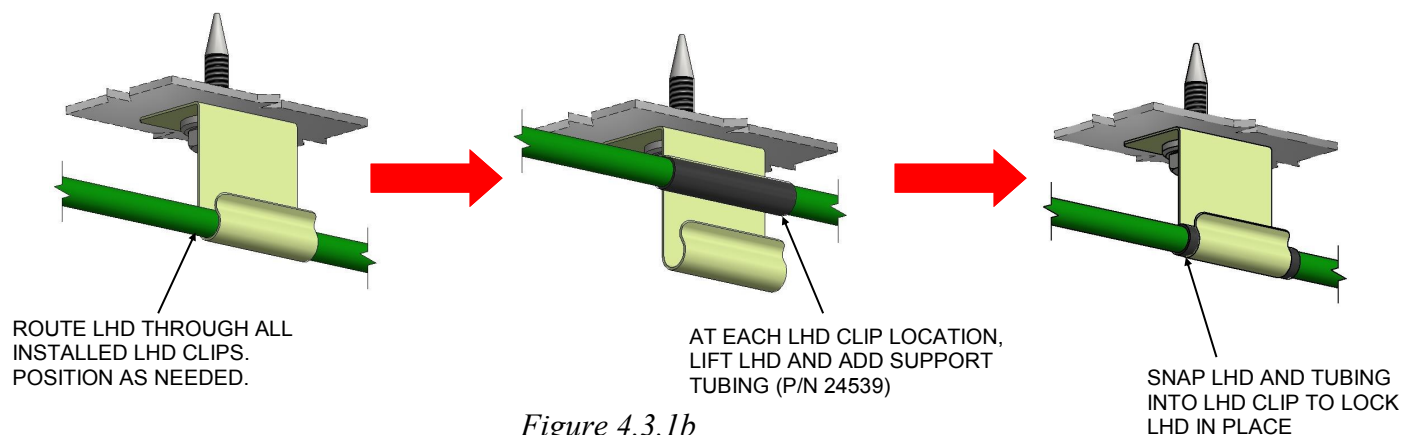

Figure 4.3.1b
2. Once all LHD Support Clips are fully installed, temporarily route the LHD by placing it in in each clip location (See Figure 4.3.1b). Never pull an LHD through a series of Support Clips which may result in damage or chafing to the LHD.
3. Moving from one support location to the next, carefully lift out the LHD, wrap a section of LHD Support Tubing around the LHD and press both back into the LHD Support Clip (See Figure 4.3.1b).